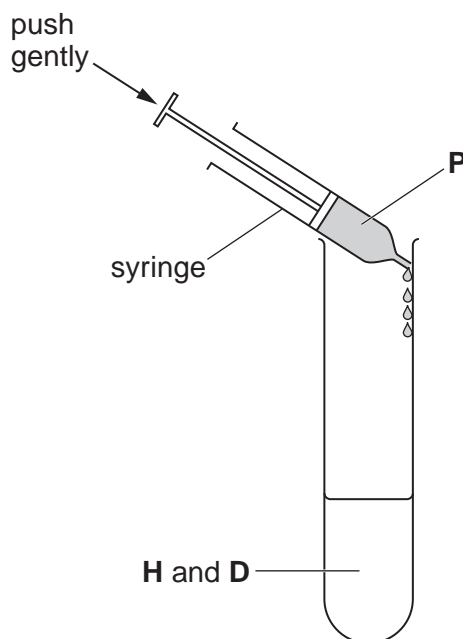

Fig. 1.4
6. As shown in Fig. 1.4, put 1 cm³ of **P** into the same test-tube and stir as before. Immediately start timing.